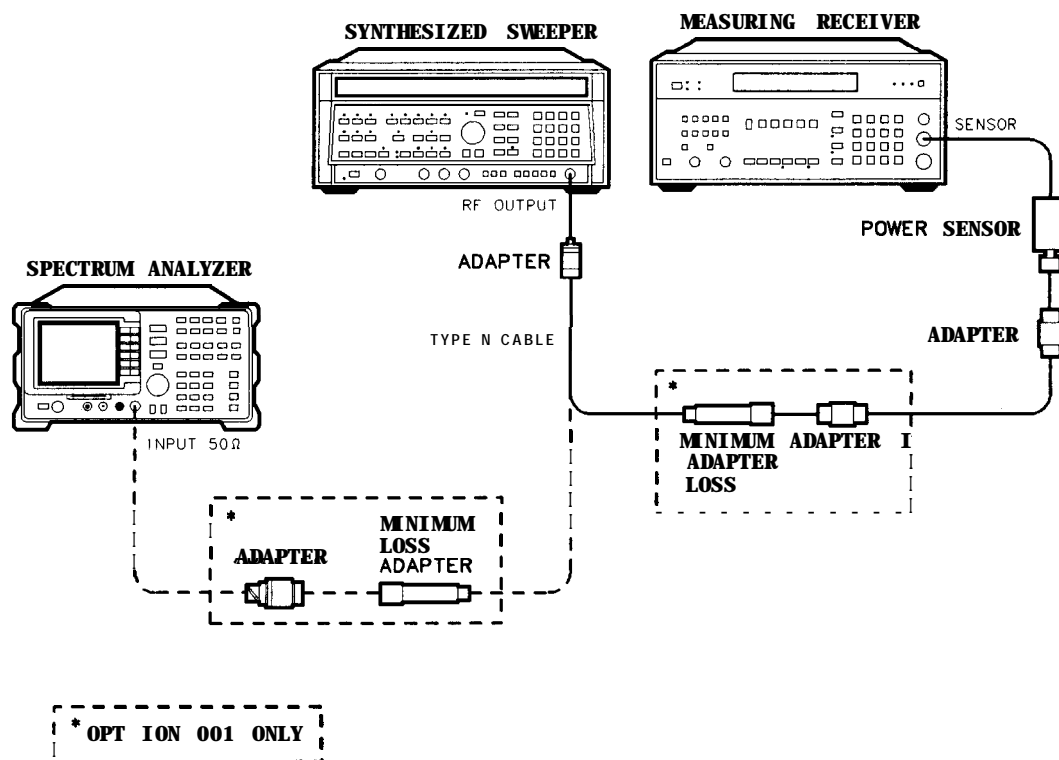

Figure 1-17. Other Input Related Spurious Test Setup
3. Connect the equipment as shown in Figure 1-17. Connect the output of the synthesizer to the power sensor using adapters.
Option 001 only: Use the minimum loss adapter and 75Ω adapter as shown in Figure 1-17.